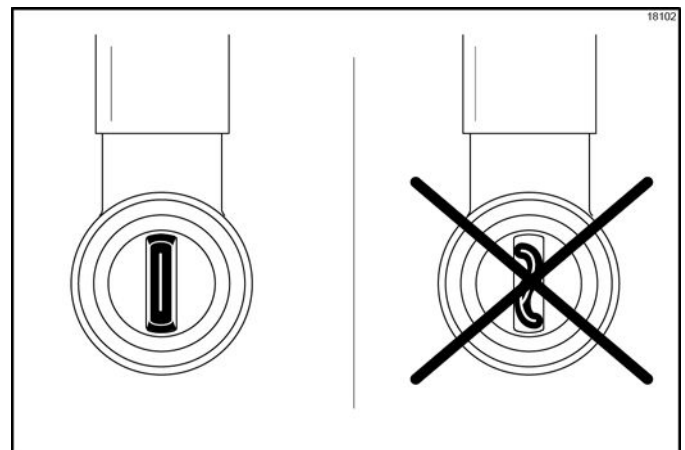

Figure 6-131
17. Inspect the duckbill valve for proper installation inside the syrup nose fitting. The tip of the duckbill valve must be flat to seal the syrup line. (See Figure 6-131.)